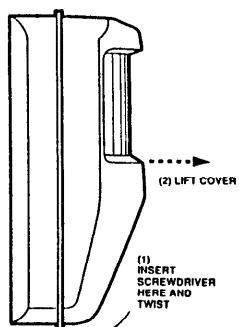

Figure 2: COVER REMOVAL
- Remove the front cover as shown in Figure 2.
- Remove front cover by inserting a screwdriver blade (or small coin) in the groove between cover and base at the location shown in Figure 2, rotating blade to override snap fit, and then lifting cover off.